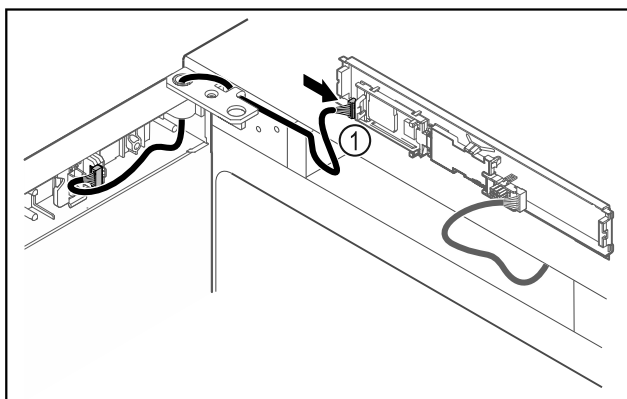

Fig. 41
- Connect the plug Fig. 41 (1) to the circuit board.